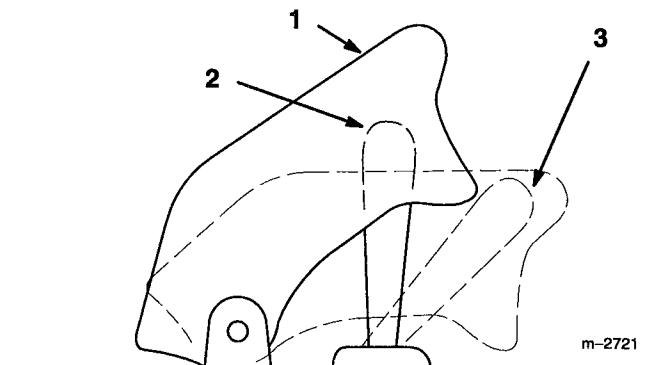

Figure 7
2. Raise the cover and move the power take off (PTO) switch to the "ON" position to engage (Fig. 7).
2. Lower the cover of the power take off (PTO) switch. This moves the switch to the "OFF" position to disengage (Fig. 7).